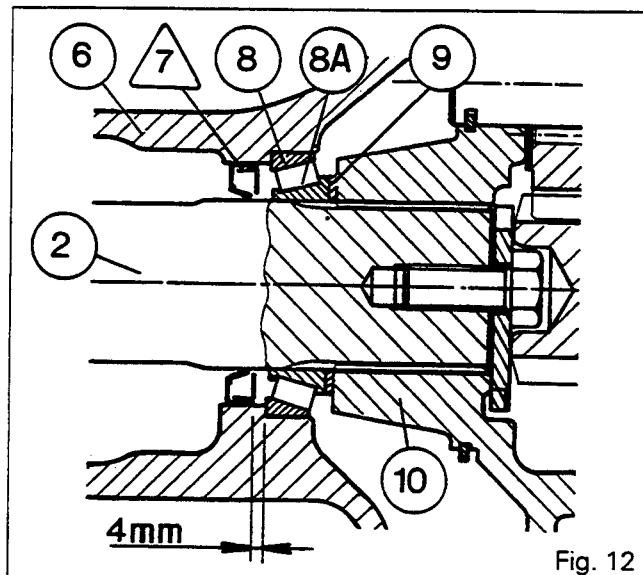
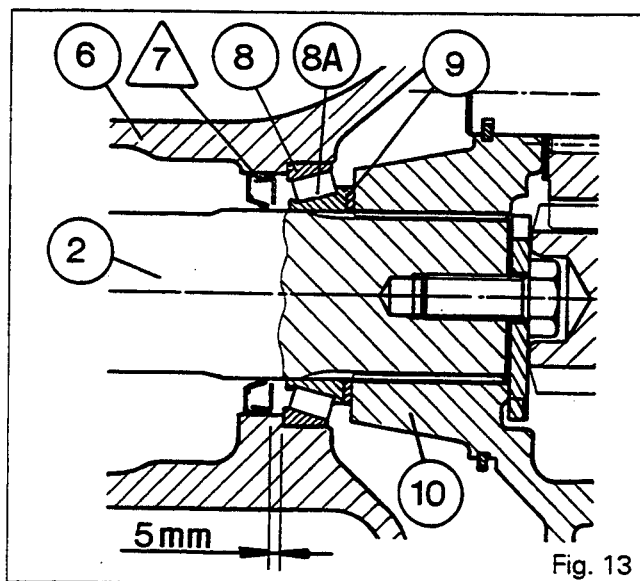
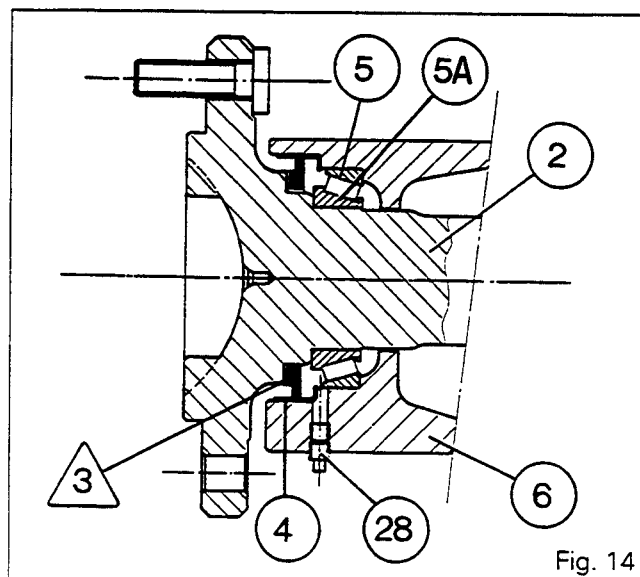

Fig. 12
Fig. 13
Fig. 14
a) Without replacing the shaft (2)
So that the seal lip is not in the same place on the shaft, press on the seal until it is 4 mm from the shoulder of the cup (8) (Fig.12).
b) Replacing the shaft (2)
Position the seal 5 mm from the shoulder of the cup (8) (Fig.13).
12. Lubricate the cups (8) and (5) and press them fully on to the shoulder.
13. Press the housing (4) fully on to the shoulder (Fig.14).
Note : Ensure that the seal is fitted the correct way round (Fig.14).
19. Refit the cone (8A), the washer (9) and the planetary carrier (10).
21. Replace the plug (28) by a grease nipple. Partly fill the cavity at the end of the trumpet housing between the cone (5A) and the seal /3\ with BP Agricharge or an equivalent grease. Remove the grease nipple and refit the plug (Fig.14).